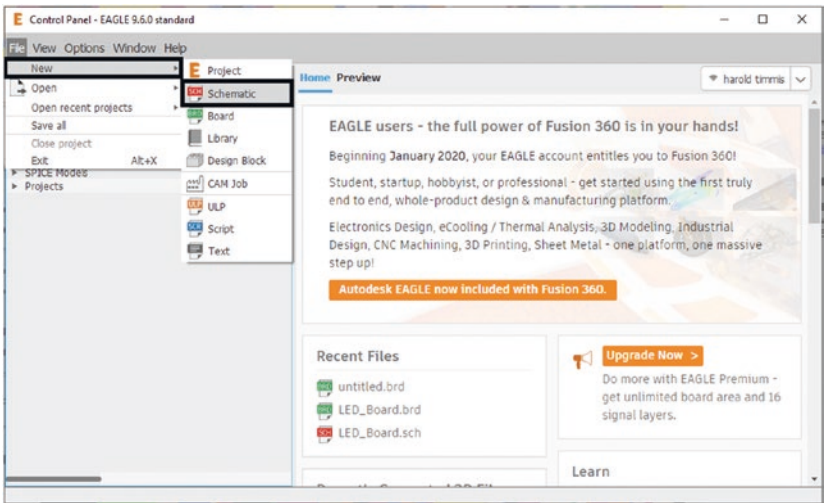

Figure 5-16. Create a new schematic
- 3. Select File ► New ► Schematic; this will open a schematic window. See Figure 5-16.